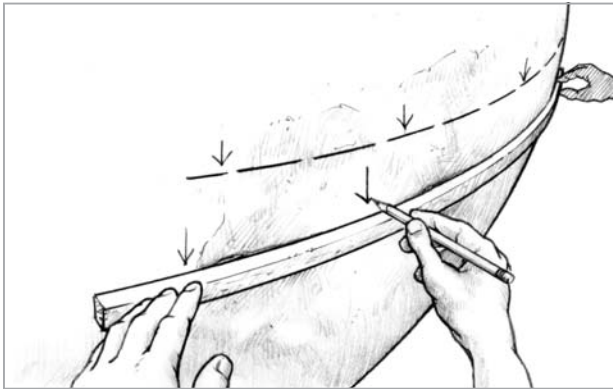

Figure 9 Use a long batten to locate the high and low areas and judge the amount of fairing compound required.
2. Determine and mark the locations for the guides. If you are fairing a curved surface like a hull, you may need to provide at least three parallel profile guides to describe the curve. Smaller radiused curves and complex shapes may require more or closer spaced guides. Use a long batten to locate the high spots and determine how much fairing compound will be required to fill the low areas to a level above the bottom of the batten. Mark the high spots where the batten touches the surface (*Figure 9*).